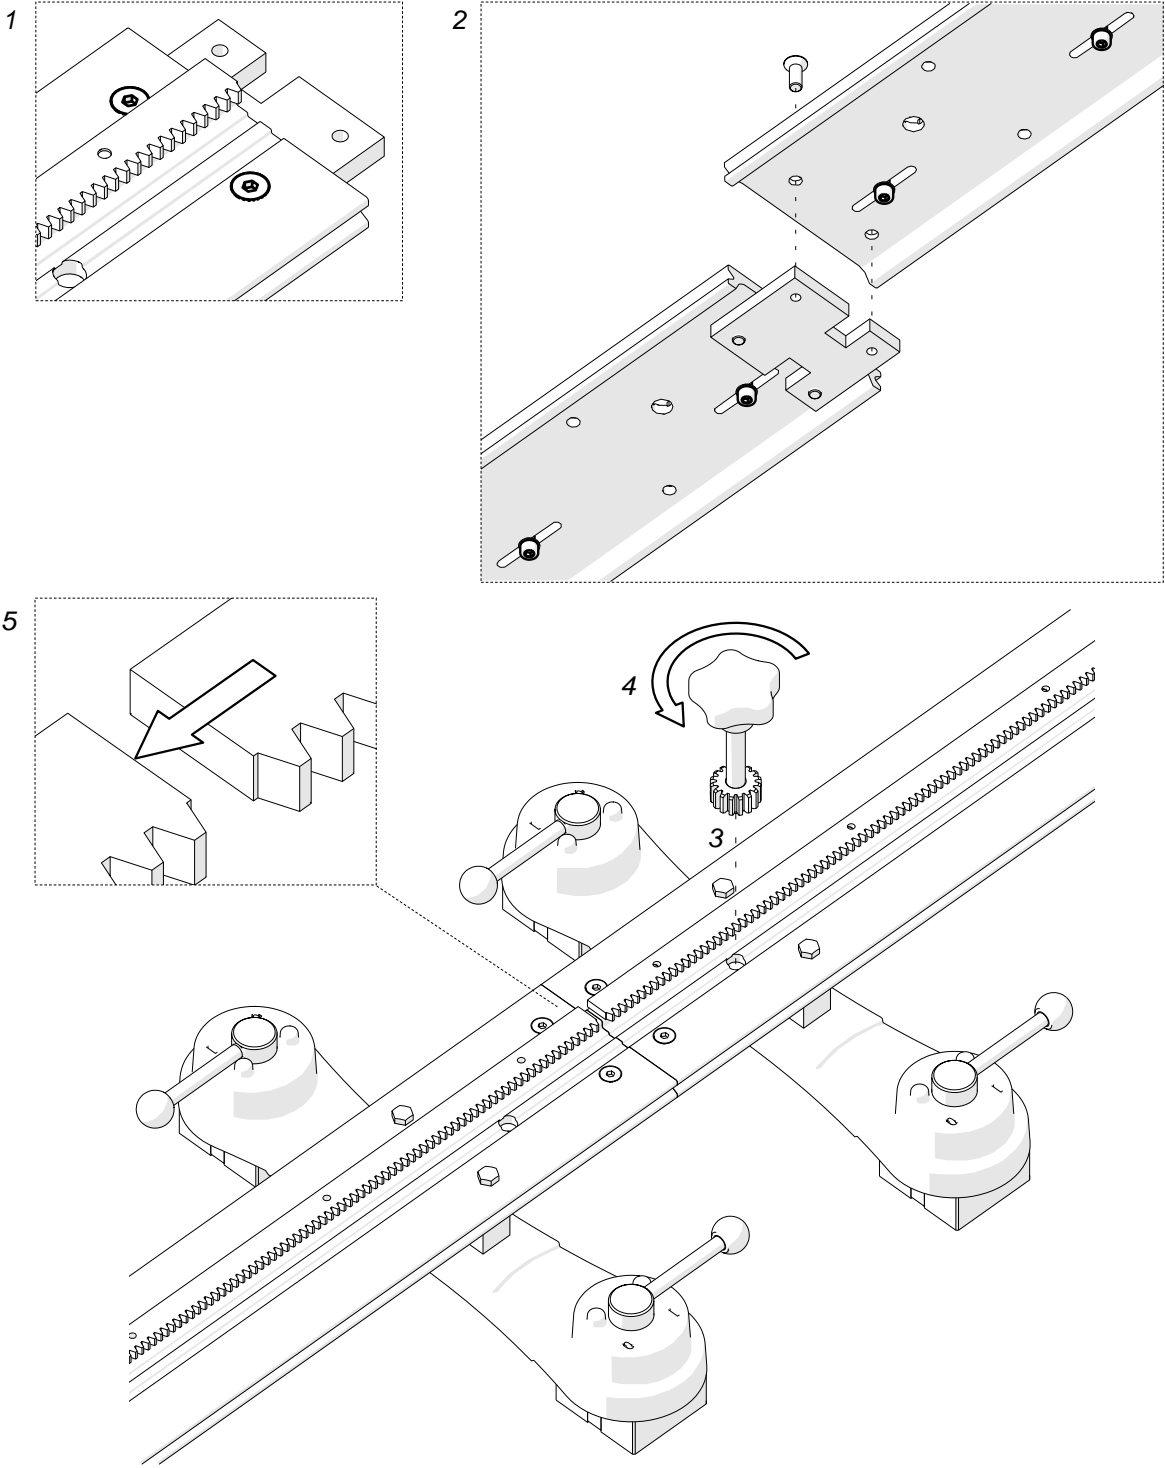

Fig. 4. Removing the gap between the gear racks of a semi-flexible track
Before attaching additional rails to a semi-flexible rail placed on a curvature, loosen the screws of the connecting plates (1, Fig. 4) and of the gear racks (2) using the 4 mm hex wrench. Next, attach the rails, clamp them using levers, and then tighten the connecting plates. Place the gear rack adjustment tool into the hole (3), rotate the tool to the left (4) to remove the gap (5) between the gear racks, and then tighten the leftmost screw and the rightmost screw of each gear rack (2).